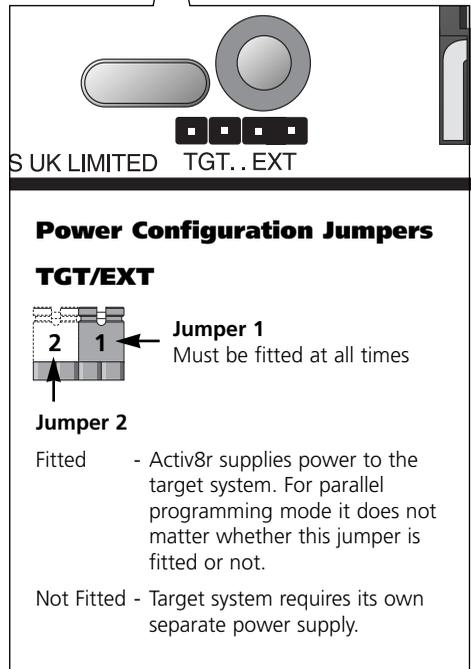

Figure 8
- 3 Make sure that both power jumpers are inserted (see figure 8)
In order to place the target device into programming mode, it is necessary to assert the RESET pin of the target microcontroller as detailed in fig 8 on page 18
The serial programming mode of the 89S and AVR family devices is initiated by asserting the RESET pin in the correct sense for a certain period of time. The programmer must, therefore, be able to assert the RESET pin on the user target microcontroller. External control of the RESET pin can be implemented in a number of different ways. A typical example of a possible RESET circuit is shown in Fig: 8 on page 18.